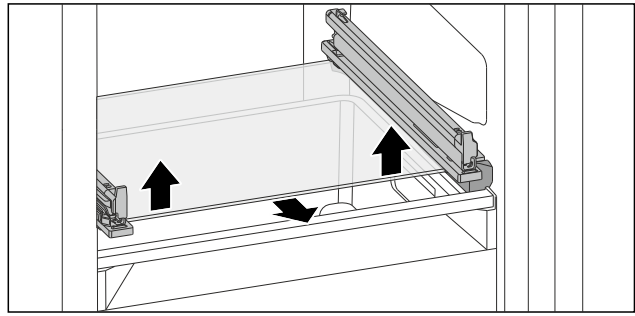

Fig. 120 Tilting drawer glass shelf
- ▶ Push glass shelf upwards from below on both sides. (see Fig. 120)